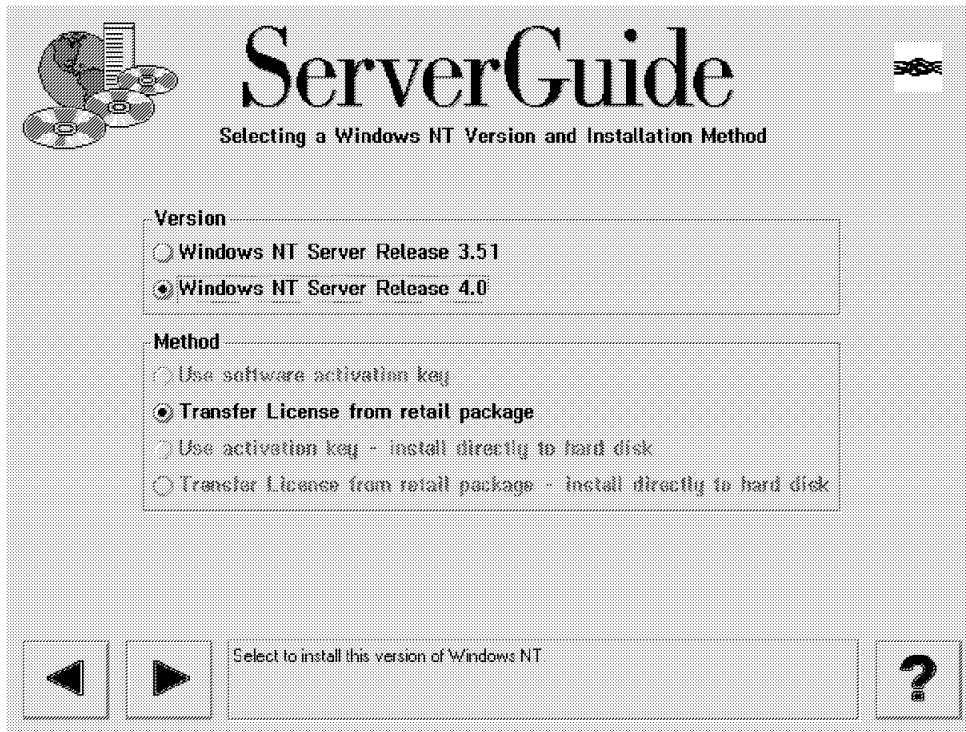

Figure 51. Selecting NT 4.0 from ServerGuide 3.0
3. The panel shown in Figure 51 on page 77 appears.